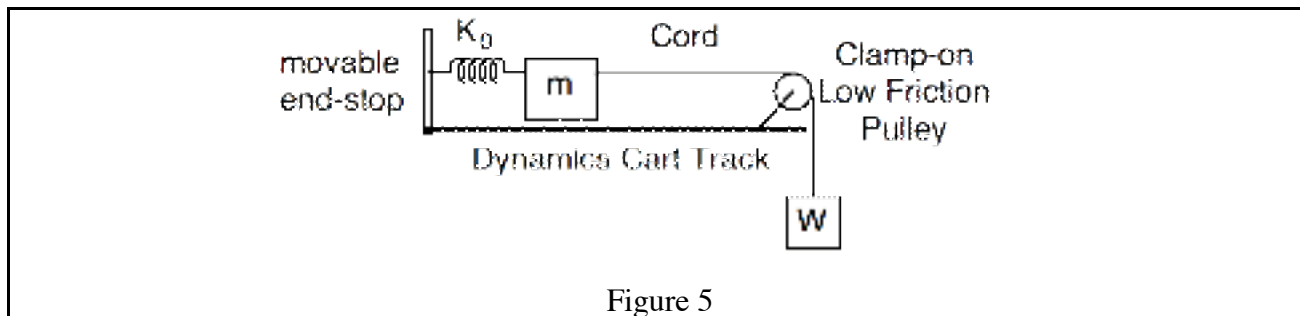

Figure 5
2. In order to measure the spring constant, set-up the track and one of the carts as shown in Figure 5.